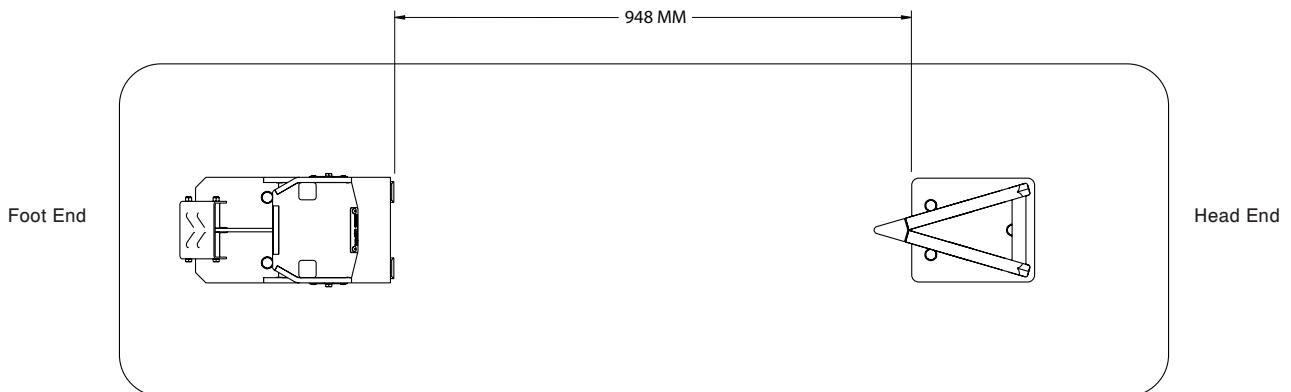

Figure 11: Fastener Spacing
- Confirm fastener spacing as shown in Figure 11.